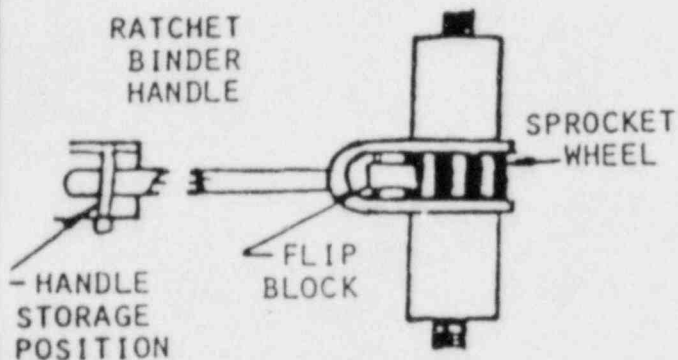

Figure 1
6.3.2.2 Engage the flip block to the sprocket wheel in the direction necessary to loosen the ratchet binder (see Figure 1).
6.3.7.6 Disengage the flip block and rotate and secure the handle to its storage position (see Figure 1).